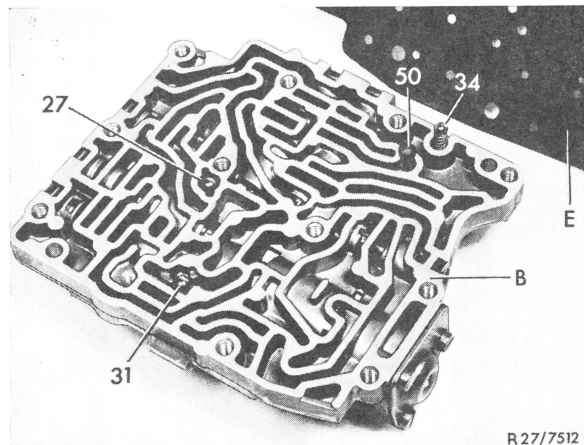

Fig. 4
**5** Remove two balls of 7 mm dia. (27 and 31) and one ball of 5.5 mm dia. (34) including spring from pressure relief valve modulating pressure, as well as filter (50) together with spring from top (B) (Fig. 4).